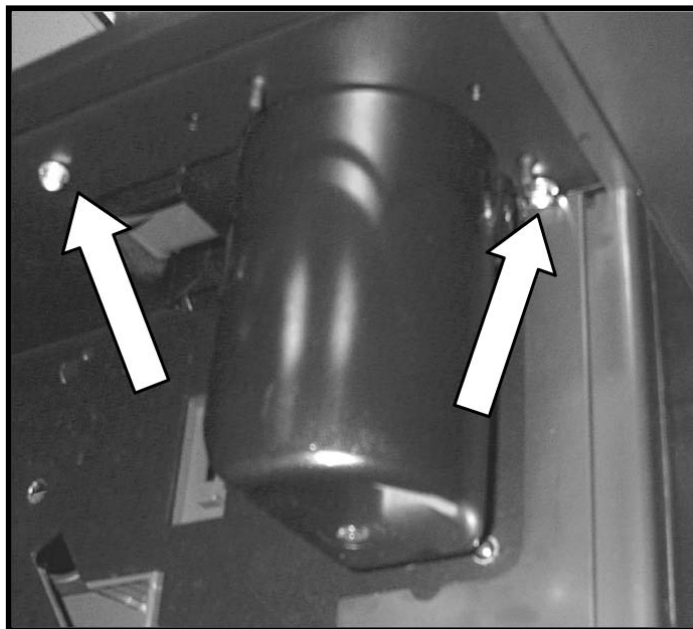

Figure 5-34: Grinder Retaining Nuts
22. Position the Grinder as necessary to access the Drive Cover and Drive Unit Retaining Screws. Refer to Figure 5-34 for the location of the screws.